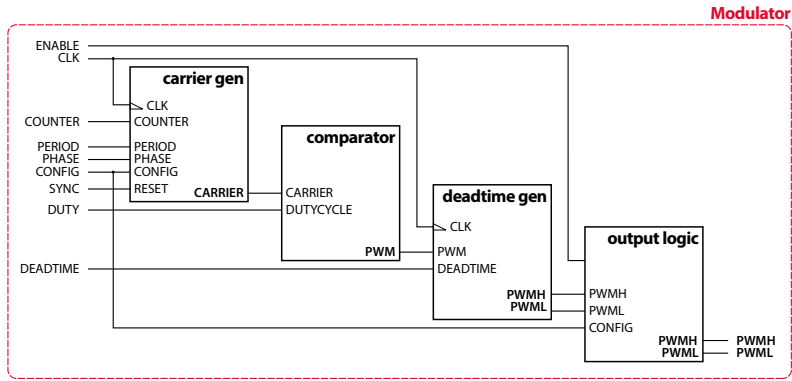

Fig. 30. Block diagram of a modulator.
- » 8 **modulators**, corresponding to each PWM output *channel*, that define the *switching instants* of the gate-drive signals. Each channel features two complementary signals that correspond to one *switching cell*. Fig. 30 shows the corresponding block diagram.